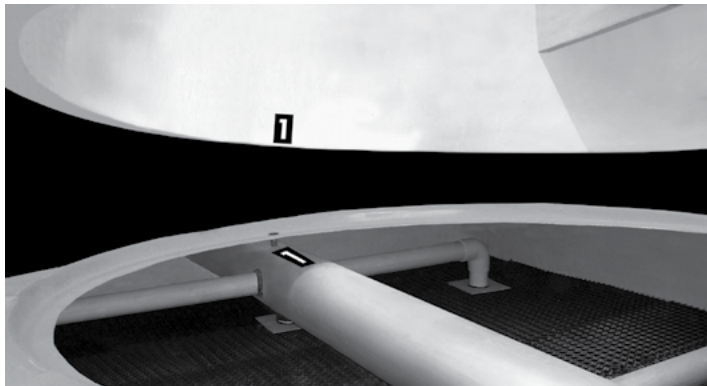

Figure A-67: Fan Duct alignment for a Modular Tower
- E. Identify each fan duct, they are labeled with a number on the inside of the lower edge. For a correct installation, this number must match the number on the distribution manifold of the corresponding body section. Now place fan duct 1 on the correspondent receiving flange on top of the Tower; make sure the bolt holes and the marks inside the fan duct and the receiving flange are aligned (see Figure A-67). Secure it with the stainless steel nut and bolt sets supplied by REYMSA.